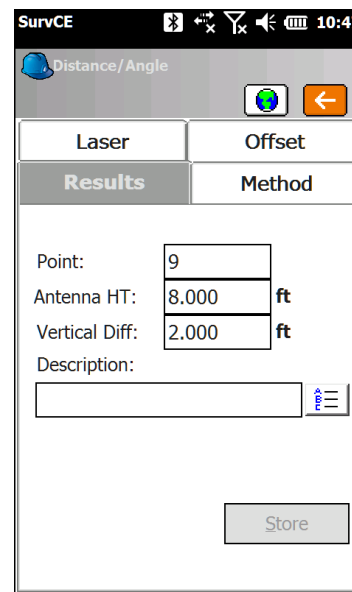

Figure 18
4. Make sure the Results tab displays the correct data and Store the point (Fig.18)